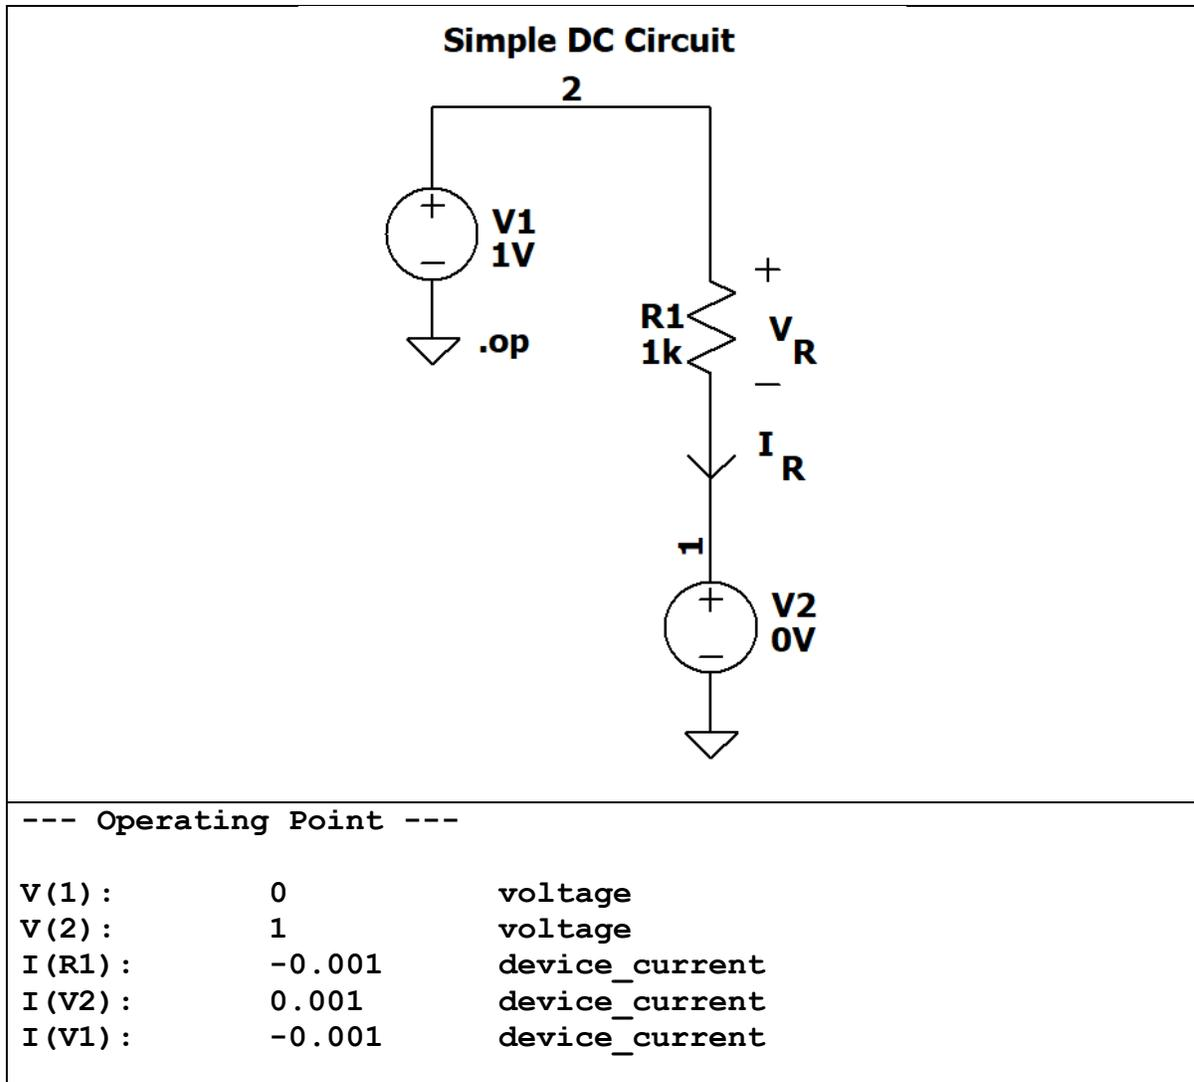

Figure 3. Circuit simulation result after adding ammeter
7. Next a 0V voltage source will be added IN SERIES with R1, see Figure 3.
**The direction of  $I_R$  was selected based on the polarity of  $V_R$  to follow the PSC for R1.** Add the 0V source as shown in Figure 3. *Since V2 is a short, it has no effect on the circuit.* Also label node 1. Rerun the simulation. Figure 3 also shows the result.